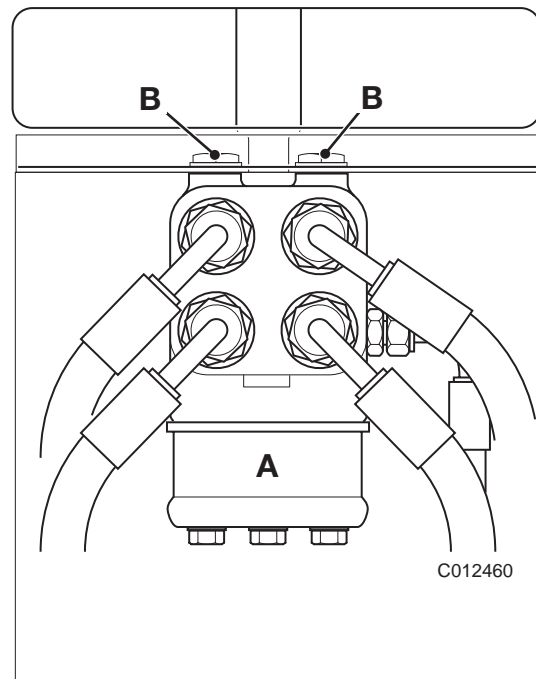

Fig 16.
- 4 Label, then disconnect the hydraulic hoses to the steering unit **A**. Cap the ports and the hoses to prevent the entry of dirt and the loss of hydraulic oil. → Fig 16. (H-21).